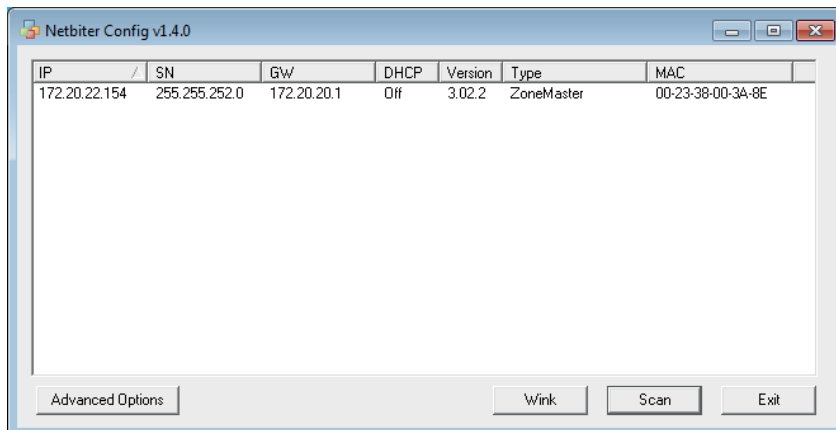

Figure 47: IP address using IPconfig
- Check that the IP address has been changed by clicking on “Scan” (see figure 47).